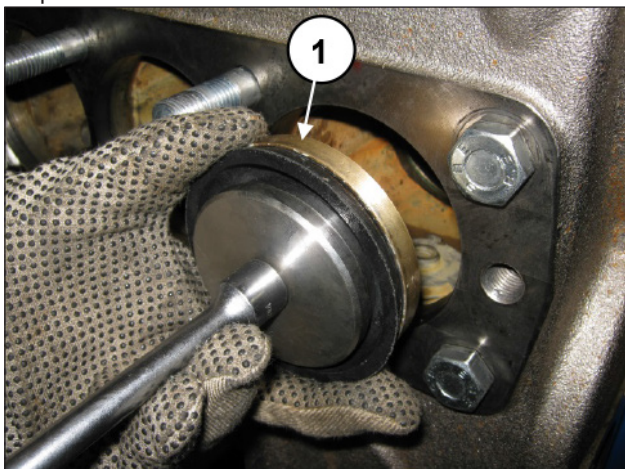

Fig. 131
With the aid of a T-handle wrench, insert the piston seal pack inside the cylinder (pos. ①, Fig. 131) with the piston spacer unit at TDC, taking care not to damage the seal lip. Screw the M8 screws in so that the seal pack positions itself in the seat and tighten it with the tightening torque contained in chapter 3.